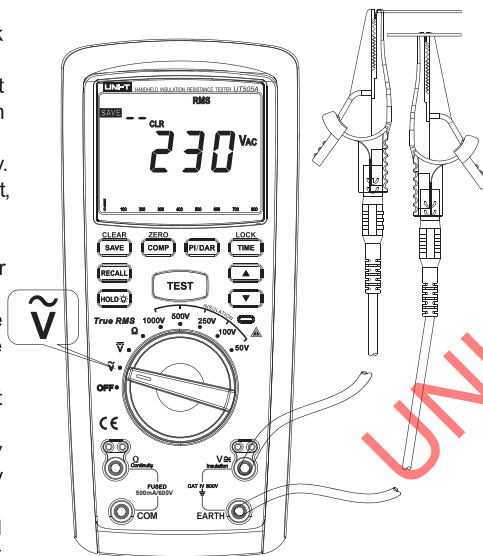

Figure 4
1. Measurement of AC voltage (See Figure 4)
- ① Insert red test pen in “ $\sim V$ ” jack (red hole) and black test pen in “EARTH” jack (black hole).
- ② Push the rotating switch to the gear “ $\sim V$ ” and connect test pen in parallel with the power source or to both ends of the load to be measured.
- ③ Directly read the measured voltage value from display.
- ④ To save the measured voltage value during measurement, just push the button “SAVE”.